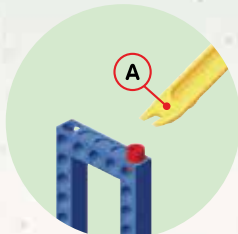

Fig. 3
3. You can use the end "A" of the part separator tool to pry an anchor pin out of a hole (Fig. 3).